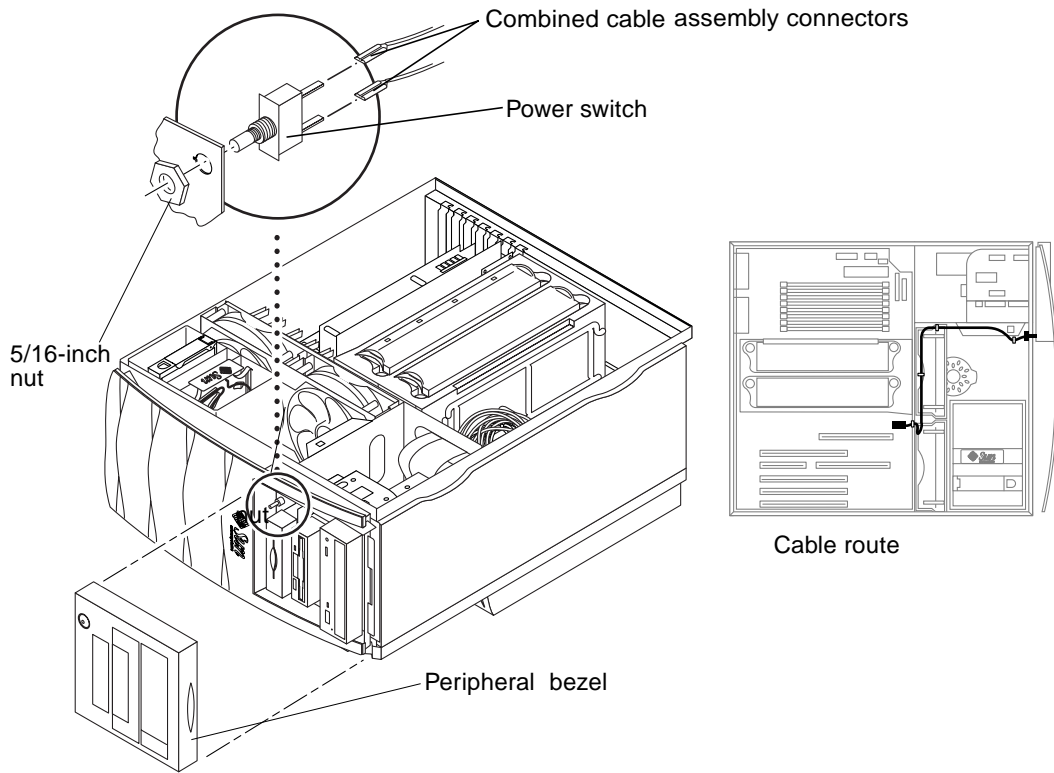

FIGURE 6-5 Removing and Replacing the Power Switch Assembly
3. **Using a 5/16-inch nutdriver, remove the nut securing the power switch assembly to the chassis (FIGURE 6-5).**
1. **Position the power switch assembly in the chassis cutout** (FIGURE 6-5).